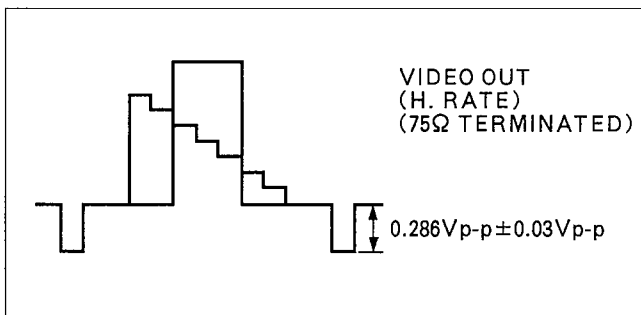

Figure E20
2. Adjust VR8804 so that the SYNC level becomes  $0.286\text{Vp-p} \pm 0.03\text{V}$  as shown in Figure E20.